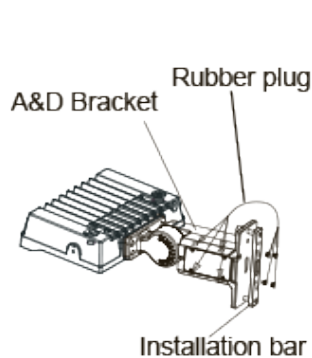

Figure 4.3
Step 1: Remove the four bolts from A&D bracket, remove the four rubber plugs from the installation bar, put the four rubber plugs on the place where the four bolts were previously placed on the bracket for waterproof purpose. (Figure 4.3)
Notice: Adjustable angle is 0-90°. (Figure 4.3)